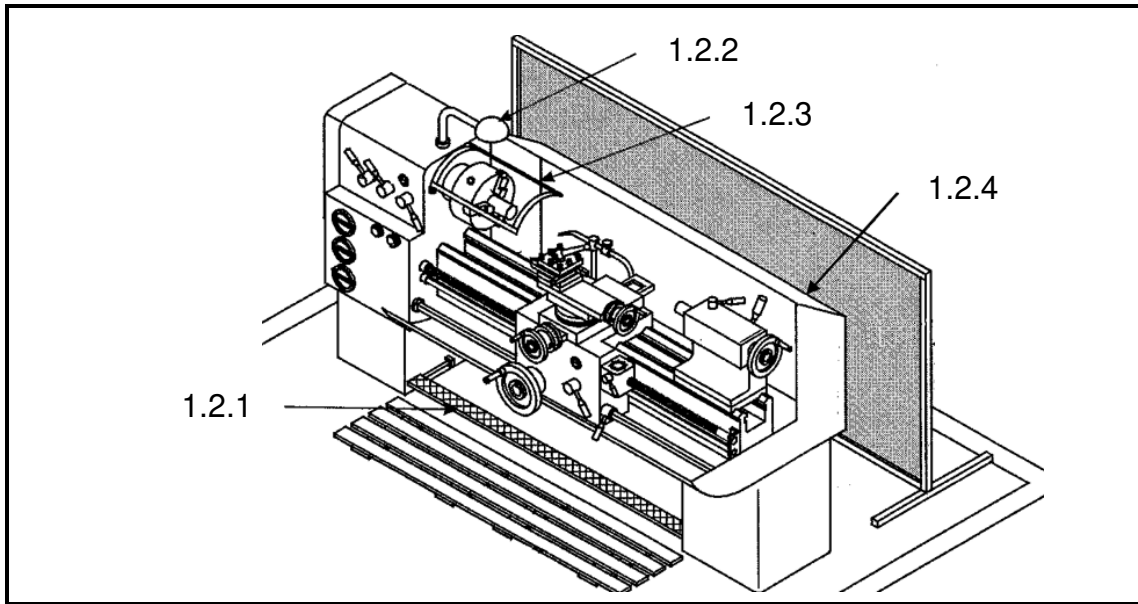

FIGURE 1
- 1.2 Study the lathe shown in FIGURE 1 below. Identify the safety features by writing only the answer next to the number (1.2.1–1.2.4) in the ANSWER BOOK. (4)